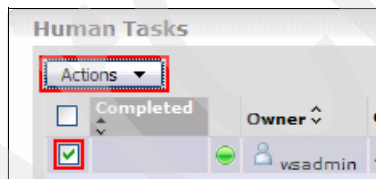

Figure A-109 Selecting an unassigned human task
2. Click the **Actions** button and select **Release** (Figure A-109).